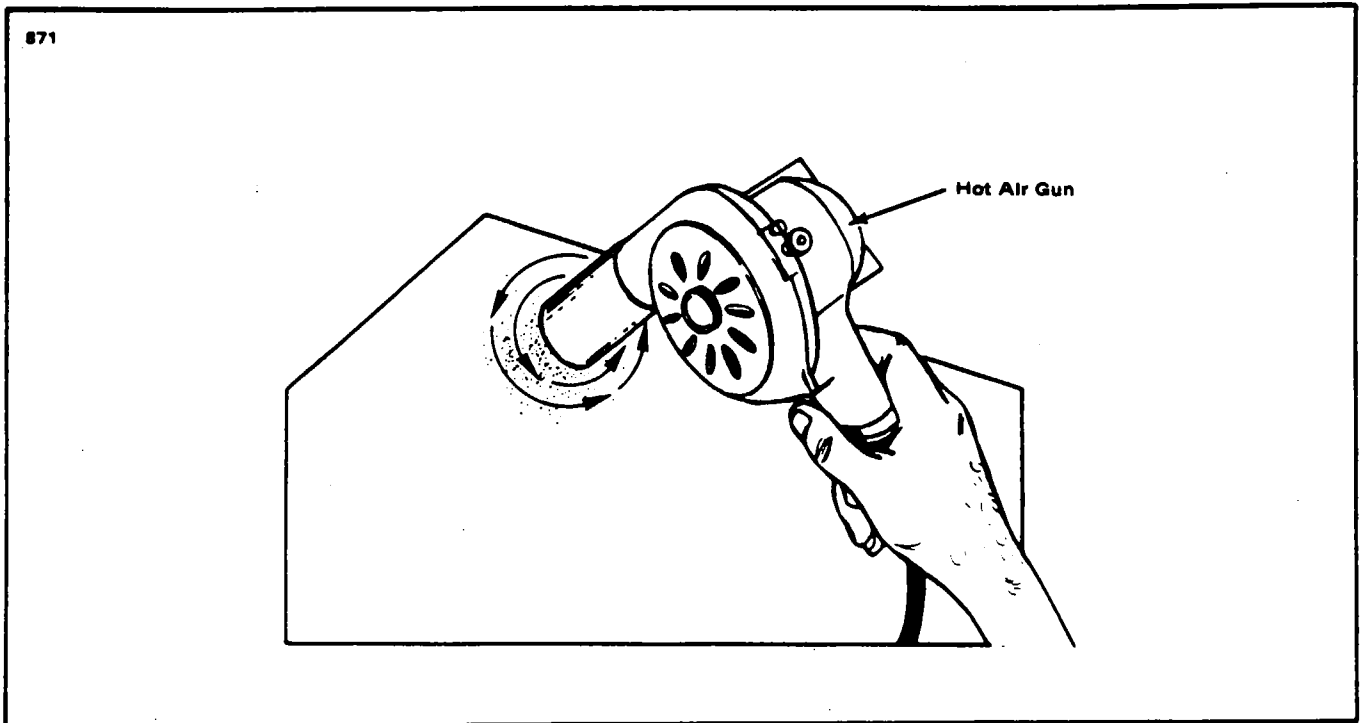

Figure 4-23. Surface Scratches, Abrasions or Ground-in-Dirt
b. Surface Scratches, Abrasion or Ground-in-Dirt: (Refer to Figure 4-23.)